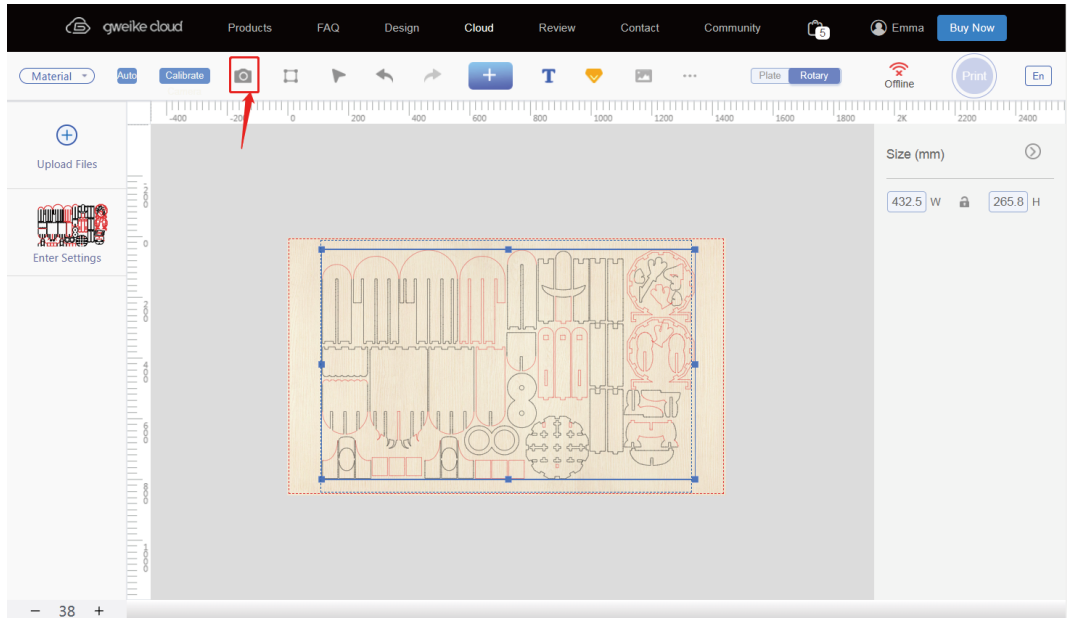

Figure 22
- ① The network environment is abnormal when sending photos, it is recommended to change the network environment
- ② The network fluctuates, click the photo button (preview) on the page to get the photo again (Figure 22)